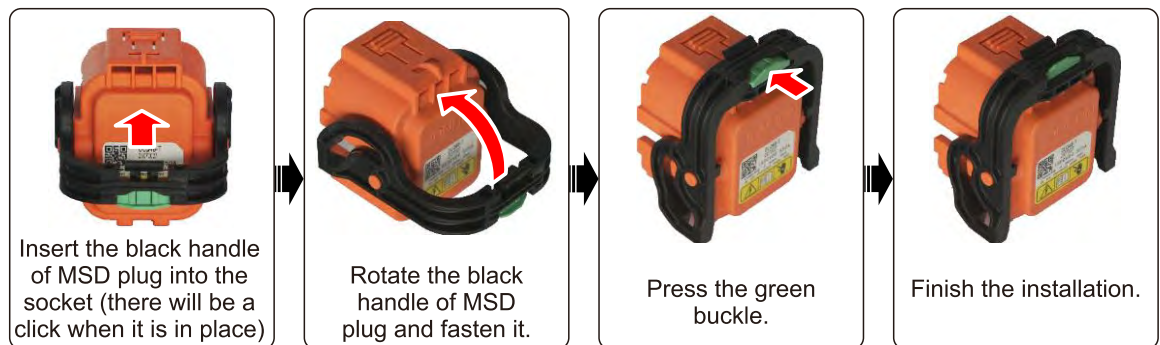

Figure6-3 Installation diagram for MSD plug
The MSD should not be assembled by force, please operate it according to Figure6-3.
- Users do not need to operate the MSD under normal circumstances. When there is a possibility that the upper terminals or cable of DC breaker (as ⑧ shown in Figure2-9) may be touched, it is recommended to remove the MSD on the battery pack (as ④ in Figure2-9) to ensure that the upper end of the DC breaker is disconnected from the power supply. Refer to Figure6-3 for the operation of the MSD.